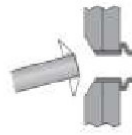

Figure 4
- (4) Remove the head from the rivet using a sharp stem, see Figure 4.